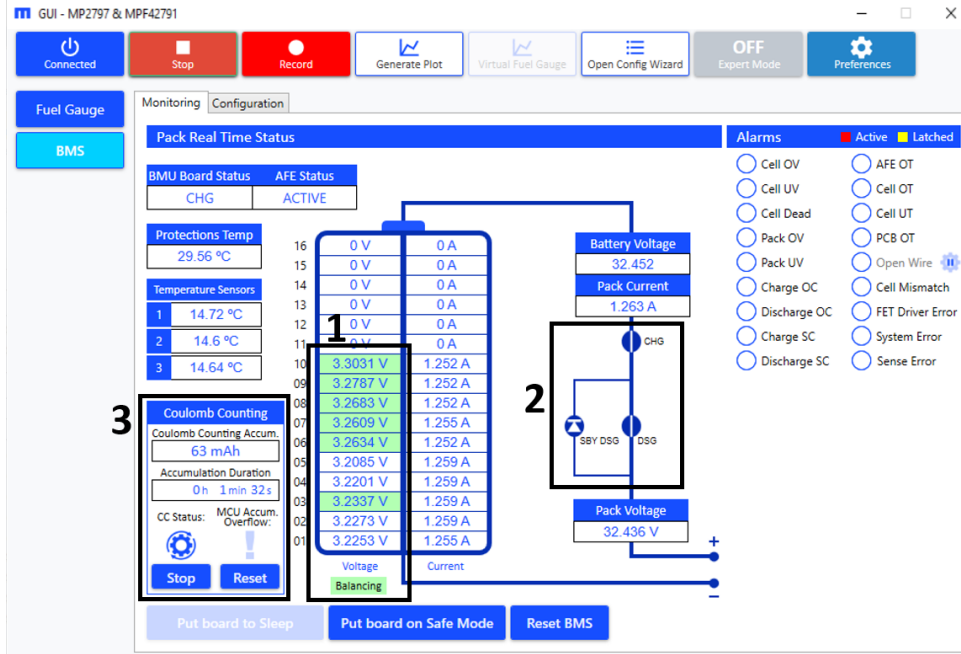
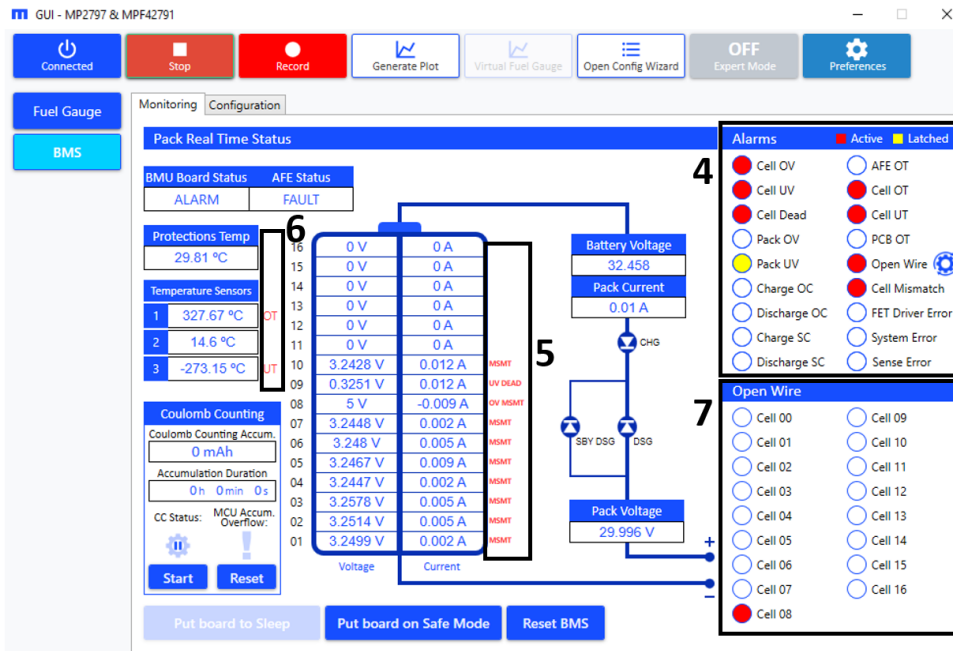

Figure 50: BMS Monitoring 1
Figure 51: BMS Monitoring 2
3. Figure 50 and Figure 51 on page 38 show the BMS Monitoring windows.
- If a cell is balancing, the background of its displayed voltage is highlighted and a legend appears below the voltage title (see Figure 50).
- The status of each protection FET is displayed. If the FET is displayed as a diode, this means that the FET is open; otherwise, the FET is closed (see Figure 50).
7. In the Alarms display, an alarm is displayed in red if the conditions to trigger the alarm are met. An alarm is displayed in yellow when the alarm’s conditions are no longer met but the status is latched. An alarm is displayed in white if an alarm is neither active nor latched (see Figure 51 on page 38).
If a fault is disabled but the fault conditions are met, the fault is displayed but the BMS does not enter alarm mode (see Figure 50 and Figure 51 on page 38).
- 8. Each cell has a display that shows the real-time status for over-voltage (OV), under-voltage (UV), dead (DEAD), and mismatch (MSMT) conditions.
- 9. Each temperature sensor has a display showing the real-time status for over-temperature (OT) and under-temperature (UT) conditions.
- 11. To stop monitoring, click “Start”. It should update to “Stop” (see Figure 50 on page 38).